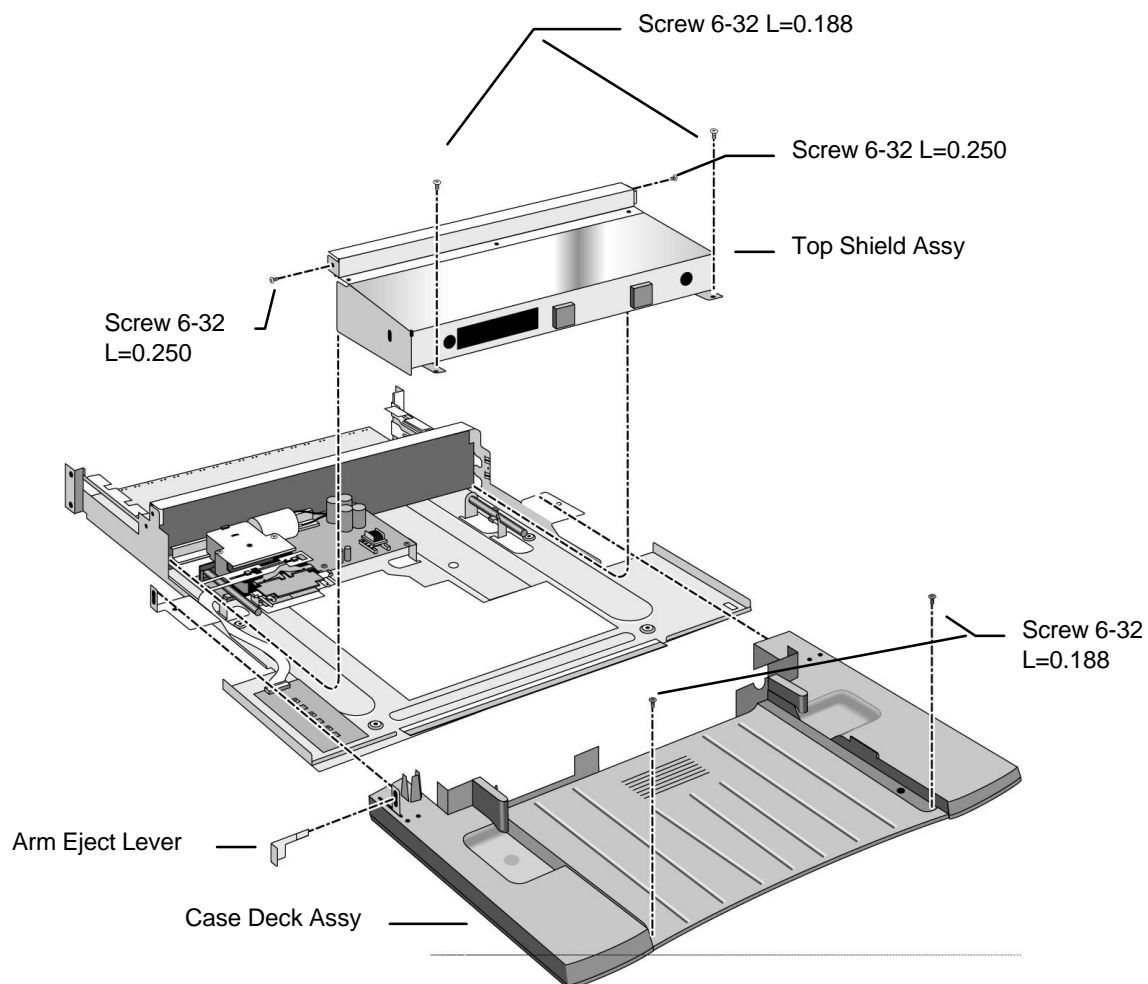

Figure 3 - Arm Eject Lever, Case Deck Assembly, and Top Shield Assembly
1. Remove the two screws shown in Figure 3.
1. Remove the four screws shown in Figure 3.